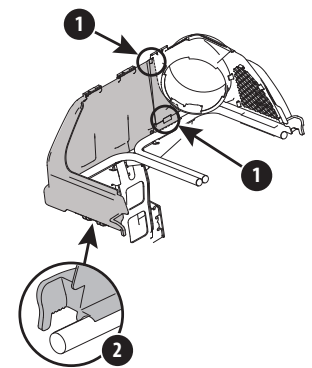

Figure 13
4. Slide the left side grass catcher cover over the upper chute support and the bag support assembly. Carefully latch the two tabs in place into the front of the upper chute support, see (1) in Figure 13. Fit the snaps onto the left side bagger rail support. See (2) in Figure 13.